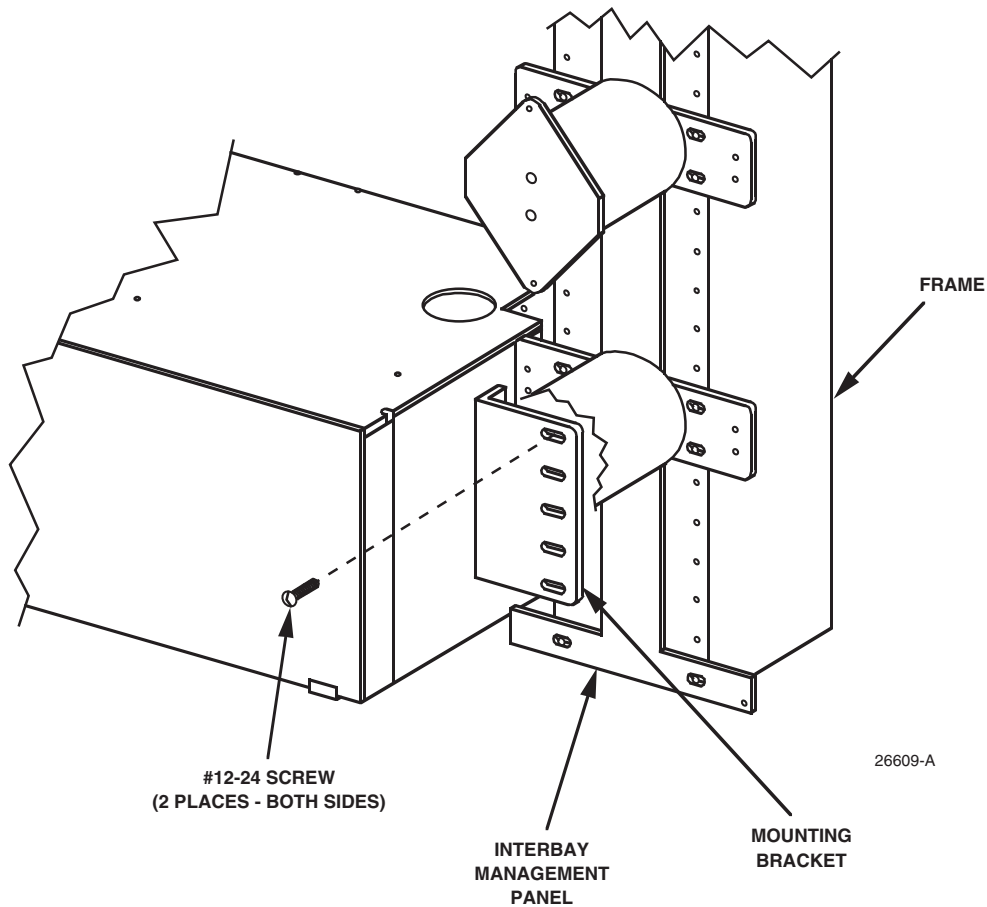

Figure 4. Splice Module Installation in an Equipment Rack
3. The splice module brackets are installed for a 19-inch equipment rack. If a 23-inch equipment rack is being used, remove the brackets and install them with the short bracket side against the splice module side as shown in Figure 4.
6. Insert two #12-24 screws supplied through the mounting bracket at each side of the chassis and in the frame as shown in Figure 4.